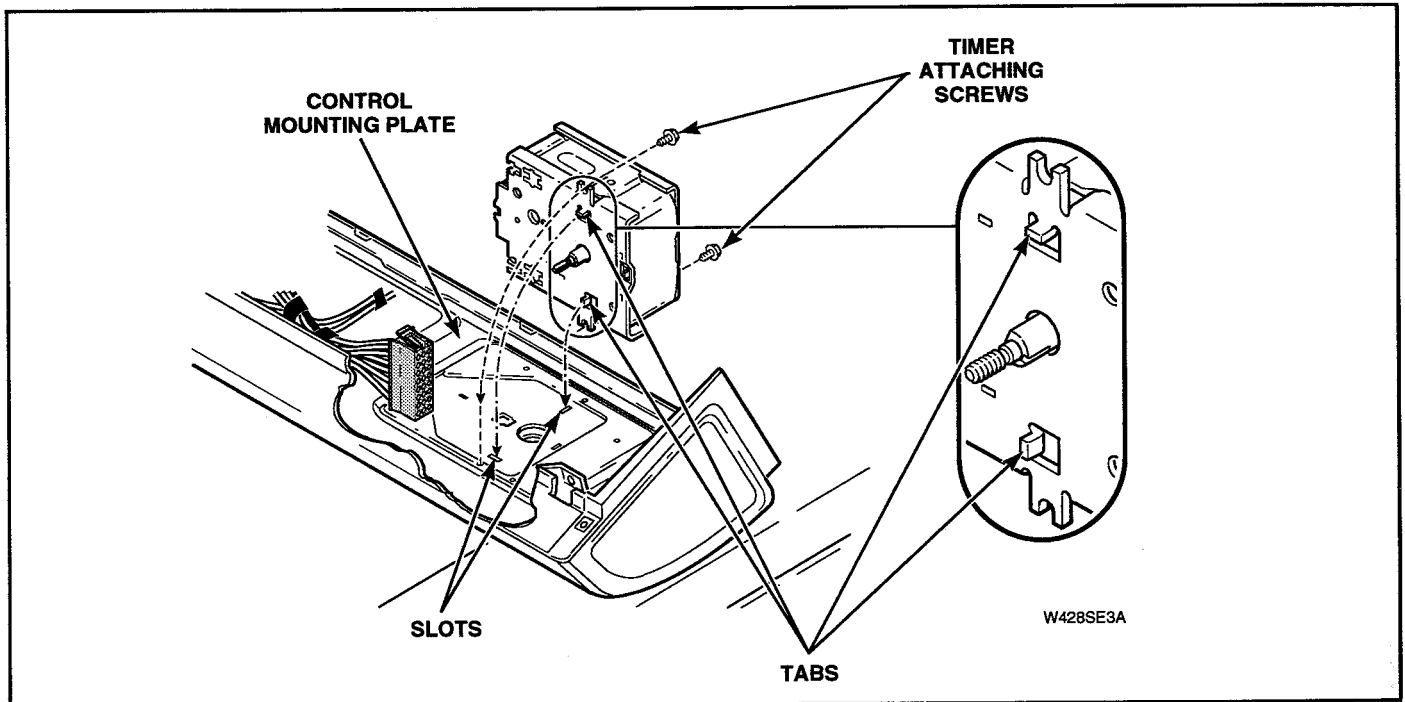

Figure 5-5
**NOTE:** When installing timer, make sure timer is installed correctly and is securely mounted to control mounting plate. See Figure 5-5.
- f. Seat horizontal and vertical tabs on front plate of timer completely into slots on control mounting plate. See Figure 5-5.